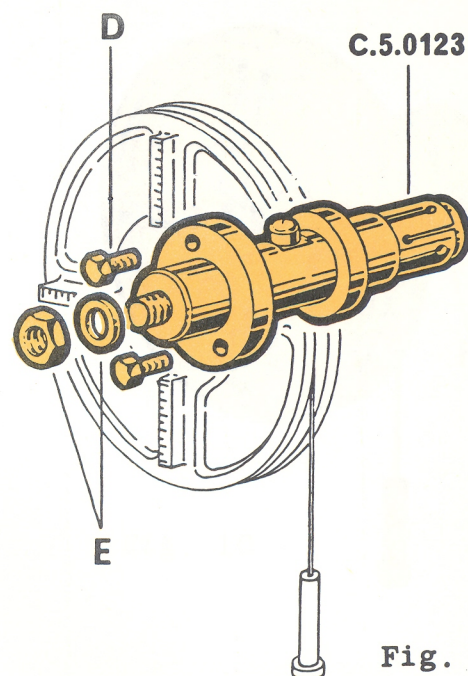

Fig. 7
On the Alfetta model, fit the above said tool to the spindle C.5.0123 and secure it with the two screws "D" as shown in figure 7.
- 7** Insert the spindle into the splined bore in the differential carrier and secure it in place with washer and nut "E". See fig. 7.